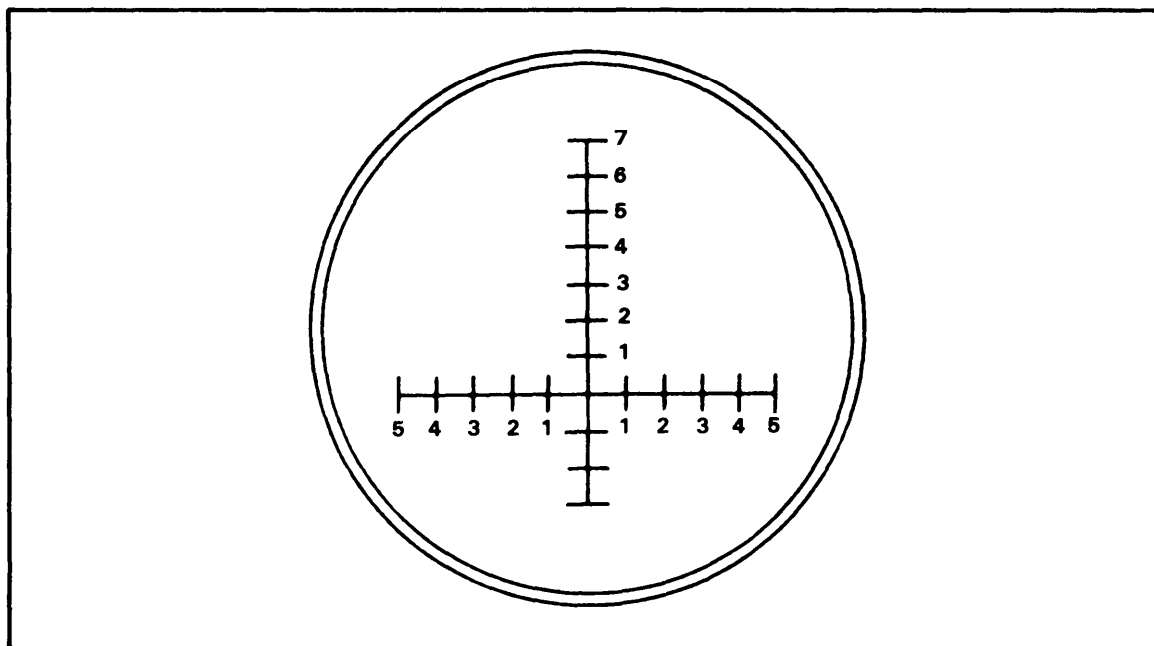
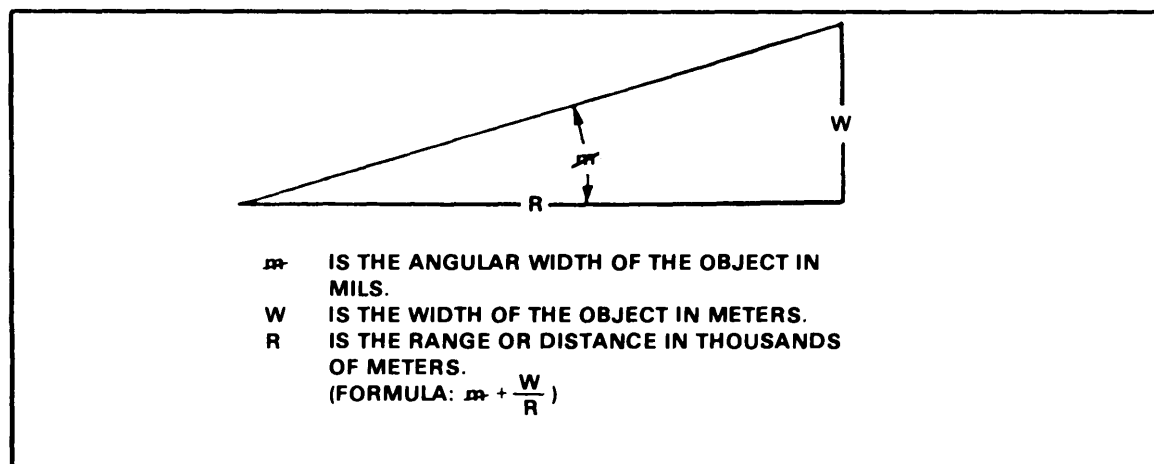

Figure 6-6. M19 binocular reticle.
Figure 6-7. Mil relation.
10-mil increments (Figure 6-6). When using binoculars to determine range, the soldier must understand the mil relation (Figure 6-7).
a. The mil(m) is the unit of angular measurement used in adjusting fire. A circle has 6,400 mils. At a distance of 1,000 meters, an object 1 meter wide measures 1 mil. Change mils to meters by multiplying the number of mils times the range (distance) in thousands of meters. Obtain the unknown width or range to an object (Figure 6-7) using a similar method.
b. The mil relation, as shown in Figure 6-7, is $\mu = \frac{W}{R}$;